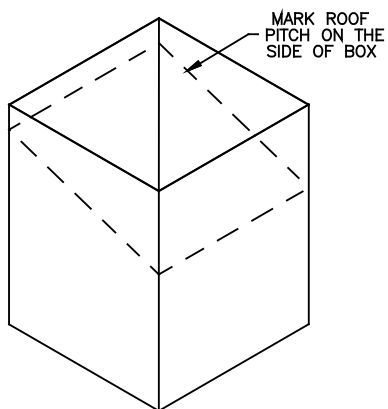

Figure 28
1. Mark a line on the side of the Cathedral Ceiling Support Box to correspond to the line of the roof pitch, as shown in (**Figure 28**). Allow for the Support Box to protrude below the low side of the finished ceiling a minimum of 2 inches.